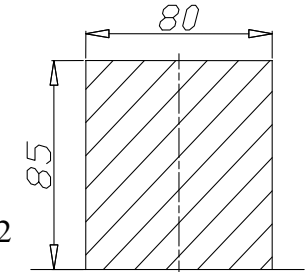

Fig. 2
2. Put side brackets (pos. 5 and 6) and fix loosely using bolts M12x35mm (pos. 7) - in points A, through washers (pos. 4) and original holes in chassis members.
3. Fix main bar of the towbar (pos. 1) to installed brackets using bolts M12x35mm (pos. 7) through holes B.
4. Through original holes in rear slice and holes in the towbar construction fix bolts M10x30mm (pos. 8)
5. Reassemble the bumper after cut out its fragment according to figure 2.
6. Fix body of the automat and place tow-ball according to supplied instruction. Note! Remember to place socket plate (pos. 3) as shown on the drawing 1.